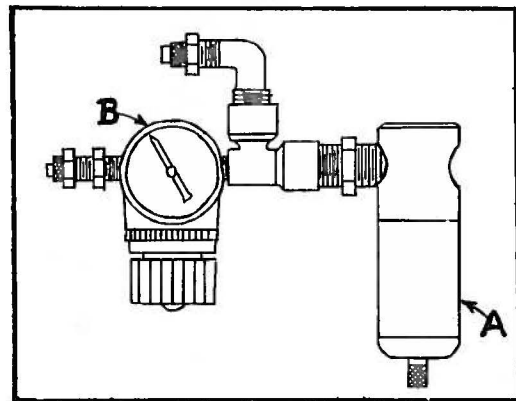

Fig. 4
After the air line has been connected to air filter (A, Fig. 4) adjust regulator (B) to 12-18 P.S.I. Do not exceed 20 P.S.I. since this will result in damage to component parts.